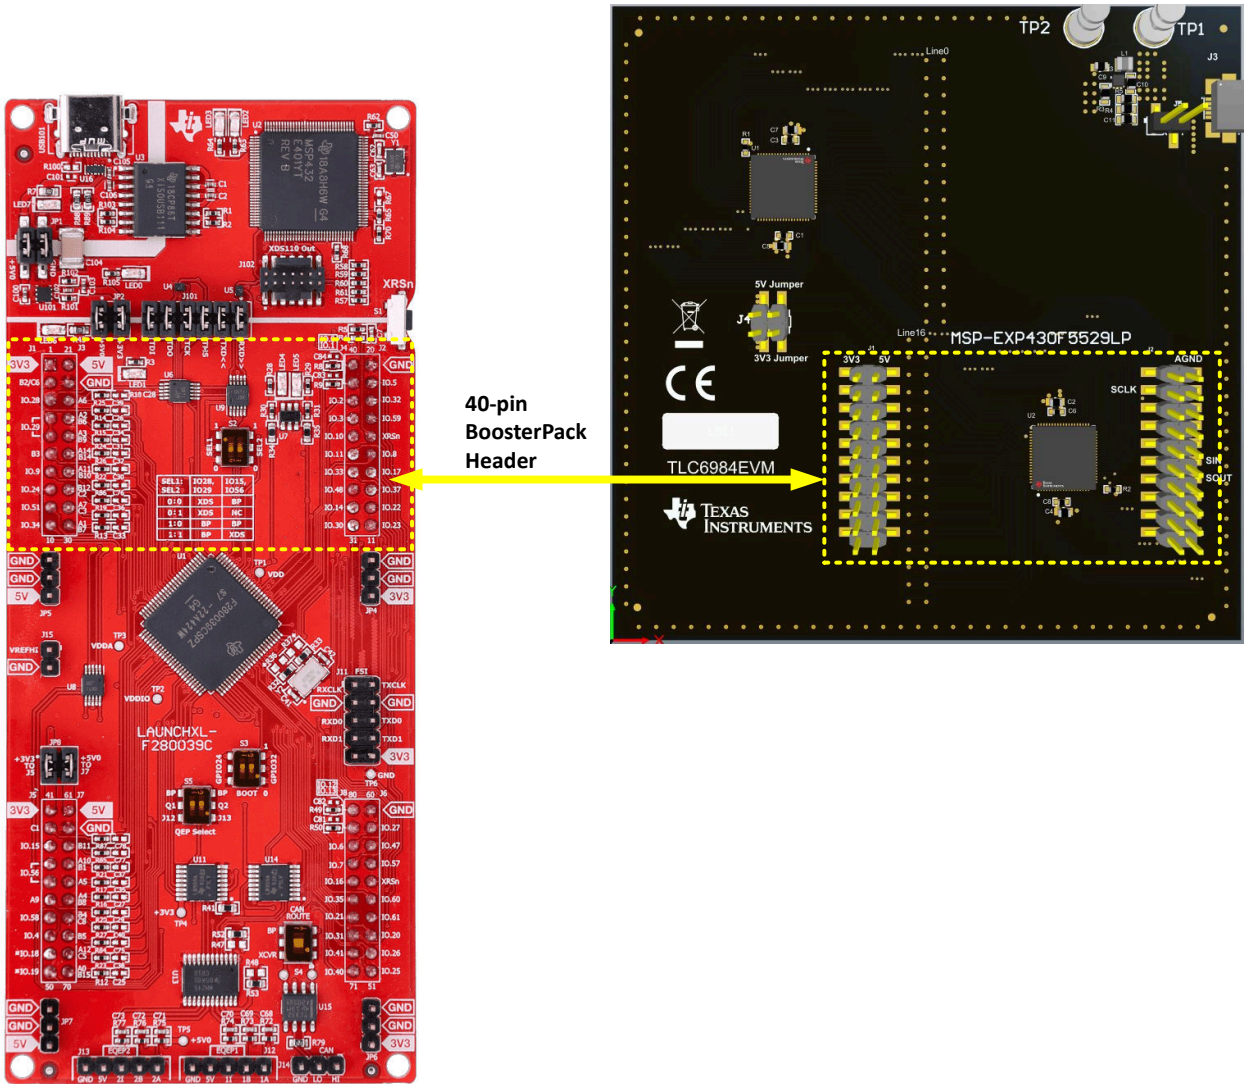

Figure 4-1. TLC6984EVM and TMS320F280039C LaunchPad
- b. Connect boosterpack connectors (J1, J2 on EVM board) with the TMS320F280039C LaunchPad. The connection method is shown in Figure 4-1.